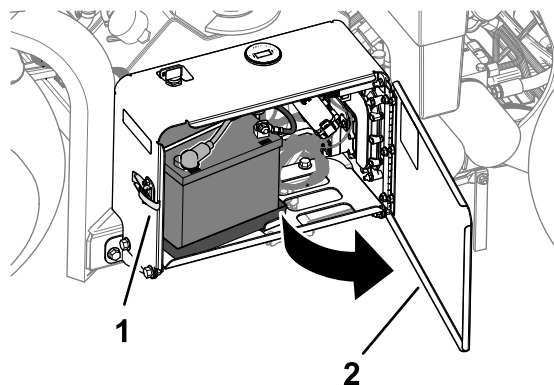

Figure 13
- Unlatch and open the battery-compartment door (Figure 13).